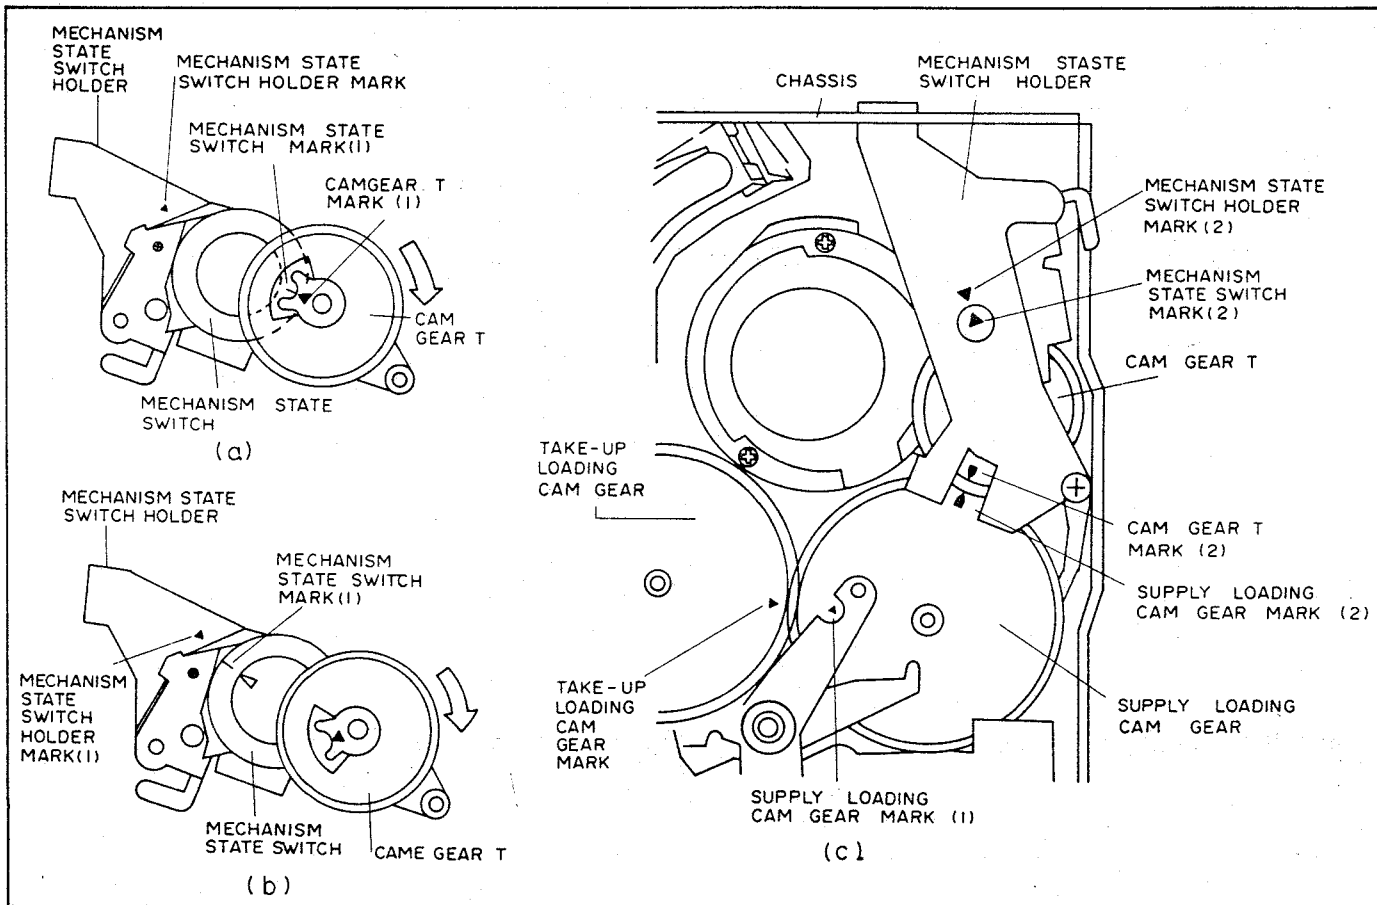

Fig. 3-2 Mechanism State Switch Adjustment
Mechanism State Switch Adjustment (Fig. 3-2)
1. Assemble the mechanism state switch and cam gear T so marking (1) on the mechanism state switch and marking (1) on cam gear T are aligned. (See Fig. 3-2(A))
2. Turn cam gear T in the direction of the arrow so that marking (1) on the mechanism state switch and marking (1) on the switch holder are aligned. (See Fig. 3-2 (B))
4. Assemble the mechanism state switch holder into the chassis so that marking (2) on cam gear T and marking (2) on the supply loading cam gear are aligned. Check that marking (2) on the mechanism state switch and marking (2) on the switch holder are aligned at this time. (See Fig. 3-2 (C)) If they are not aligned, readjust the mechanism state switch.